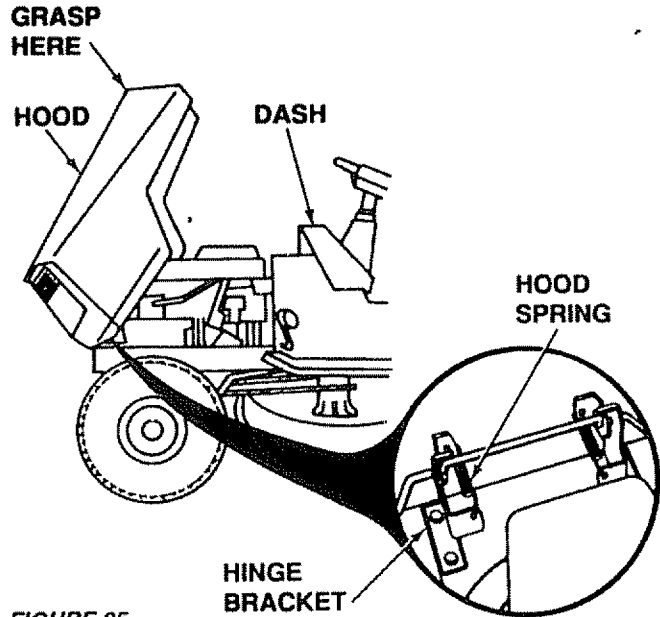

FIGURE 25
- Grasp hood at edge next to dash and open hood to full up position (Fig. 25).
- Carefully remove hood springs from hinge brackets (Fig. 25).
- Open hood to full up position (Fig. 25).
- Carefully reinstall hood hinge springs (Fig. 25).